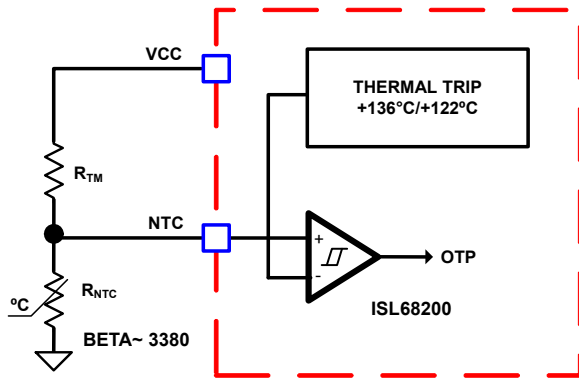
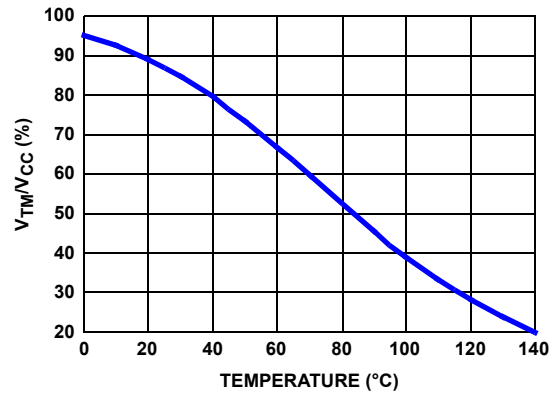

FIGURE 16. BLOCK DIAGRAM OF THERMAL MONITORING AND PROTECTION
FIGURE 18. THE RATIO OF TM VOLTAGE TO NTC TEMPERATURE WITH RECOMMENDED PART
The block diagram of thermal monitoring function is shown in Figure 16 on page 18. One NTC resistor should be placed close to the respective power stage of the voltage regulator VR to sense the operational temperature and pull-up resistors are needed to form the voltage dividers for the NTC pin. As the temperature of the power stage increases, the resistance of the NTC will reduce, resulting in the reduced voltage at the NTC pin. Figure 18 on page 18 shows the TM voltage over the temperature for a typical design with a recommended 10kΩ NTC (P/N: NCP15XH103J03RC from Murata, $\beta = 3380$) and 1.54kΩ resistor R_{TM} . It is recommended to use those resistors for the accurate temperature compensation since the internal thermal digital code is developed based upon these two components. If a different value is used, the temperature coefficient must be close to 3380 and R_{TM} must be scaled accordingly. For instance, say $NTC = 20\text{k}\Omega$ ($\beta = 3380$), then R_{TM} should be $20\text{k}\Omega/10\text{k}\Omega \cdot 1.54\text{k}\Omega = 3.08\text{k}\Omega$.
to the NTC temperature of the practical design should be similar to that in Figure 18.
1. Properly choose the voltage divider for the NTC pin to match the NTC voltage vs temperature curve with the recommended curve in Figure 18 on page 18.
As shown in Figure 16, there is a comparator with hysteresis to compare the NTC pin voltage to the threshold set. When the NTC pin voltage is lower than 22.31% of VCC voltage (typically +136 °C), it triggers Over-Temperature Protection (OTP) and shuts down ISL68200 operation, when the NTC pin voltage is above 27.79% of VCC voltage (typically +122.4 °C), it will resume normal operation. When an OTP fault is declared, the controller will force the LGATE and UGATE gate-driver outputs low.